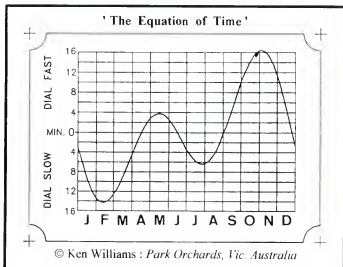

Figure 2
**Figure 2** is an Equation of Time correction graph suitable for the dial detailed later. A photocopy laminated with plastic film can be used directly or alternatively a copy can be commercially embedded in clear plastic. Fixing screws should receive weatherproof sealant.